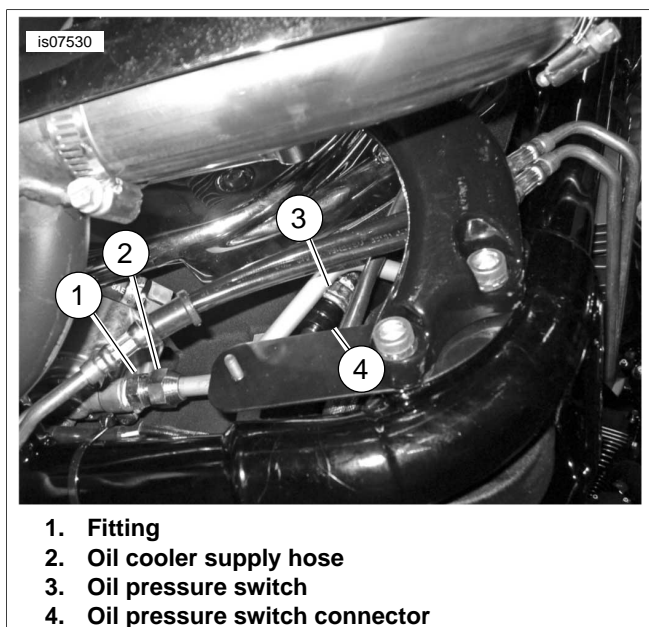
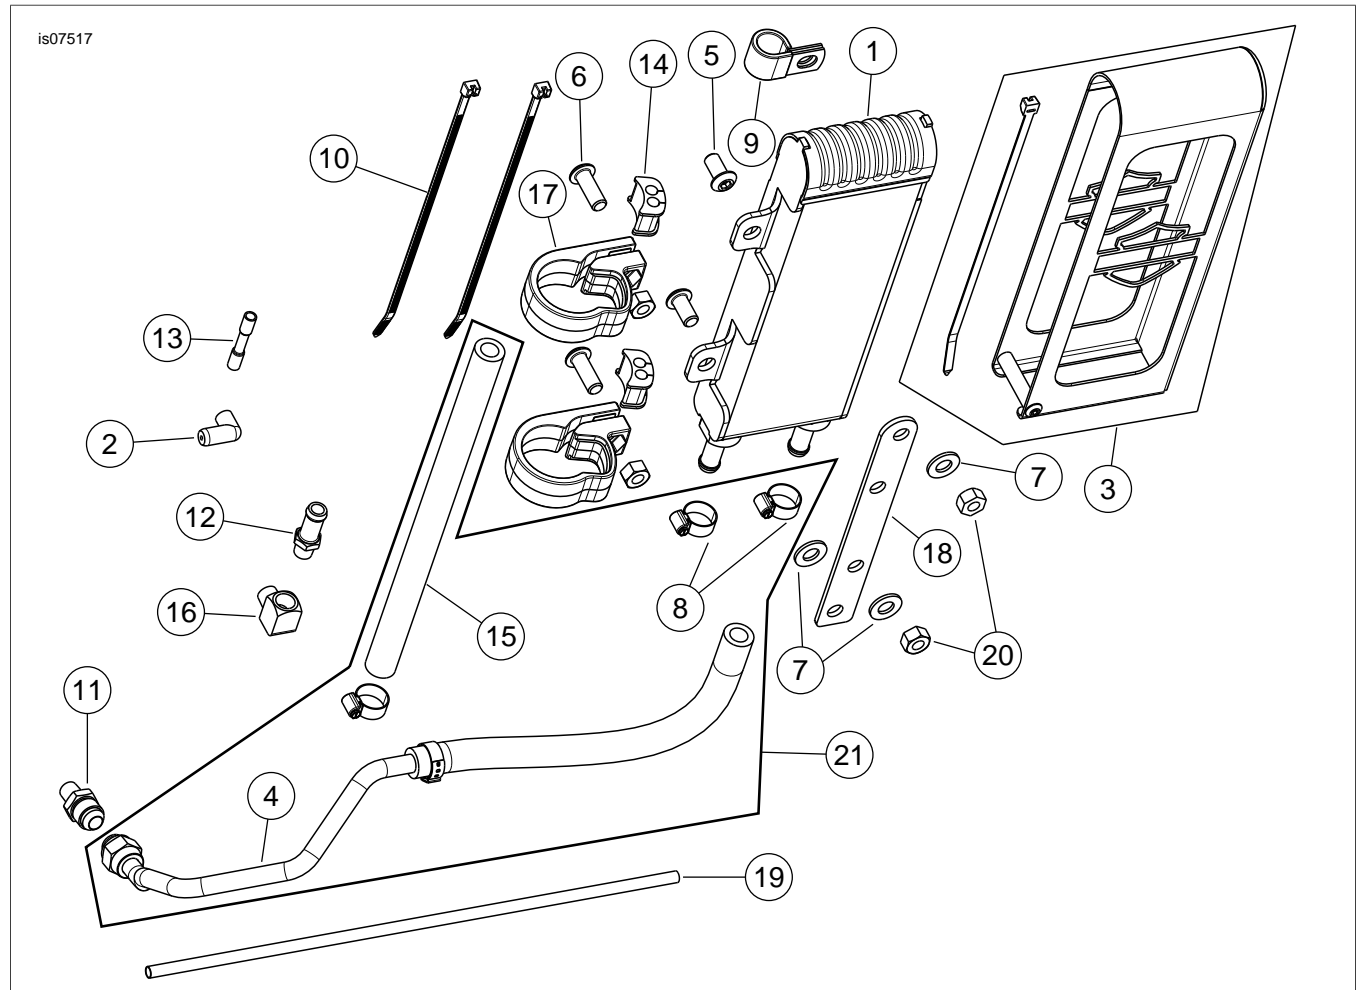

Figure 2. Oil Supply Line and Oil Pressure Switch
Figure 6. Service Parts: XL Premium Oil Cooler Kit
See Figure 6 and Table 1.
- b. See Figure 2. Install oil pressure switch (3) to **crank-case** where the feed hose was connected.
2. Install jumper wire assembly (item 2, Figure 6) to oil pressure switch lead.
- d. Measure the amount of conduit (item 19, Figure 6) necessary to cover the wire assembly. Cut the conduit to length.
- f. See the service manual sealed splice connector installation instructions. Install the new oil pressure switch connector to the harness lead with the sealed splice connector (item 13, Figure 6).
4. See Figure 2. Apply Hylomar Gasket and Thread Sealant to fitting (item 11, Figure 6). Install fitting to oil pump. Tighten fitting to 55-65 **in-lbs** (6.2-7.4 Nm).
5. Loosely install oil cooler supply hose assembly (2) to oil pump fitting.
6. Apply Hylomar Gasket and Thread Sealant to fitting (item 16, Figure 6). Install fitting to original oil pressure switch mounting location. Tighten finger-tight, then turn 2-3 times more. Orient the fitting opening to be in line with the oil filter housing.
7. Apply Hylomar Gasket and Thread Sealant to fitting (item 12, Figure 6). Install fitting to the elbow fitting. Tighten finger-tight, then turn 2-3 times more. Orient the fitting to be in line with the oil filter housing.